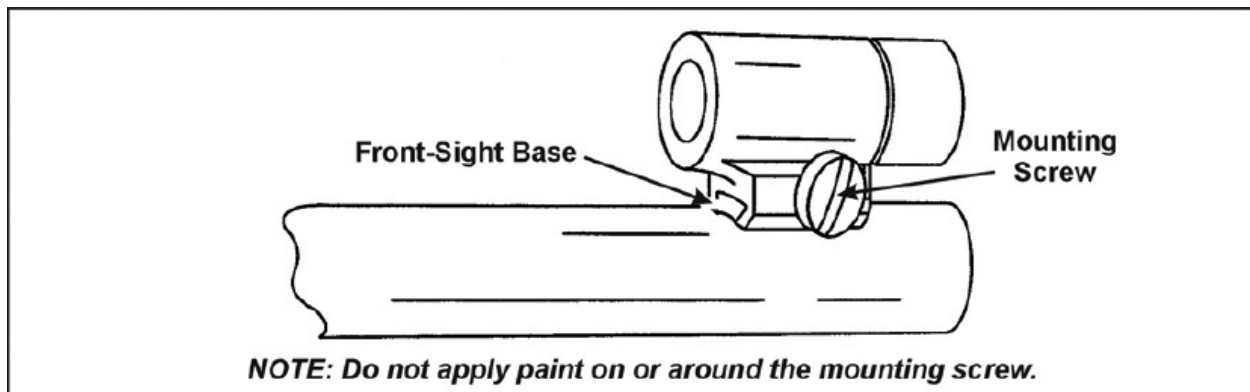

Figure 2-7. Front-sight mounting screw
- Tighten the screw slowly, ensuring that it seats into the recess in the sight base (Figure 2-7).